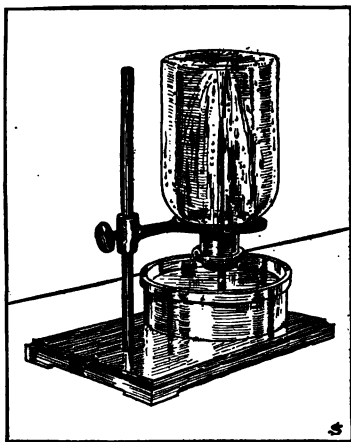

FIG. 114.
then arrange in the manner shown in Figure 114 a vessel of water colored red with litmus. The liquid rushes up into the bottle and turns blue. Explain (1) why the litmus water enters the bottle and (2) why it changes its color. Perhaps you will be able to answer the first of these questions better after your study of the next chapter.